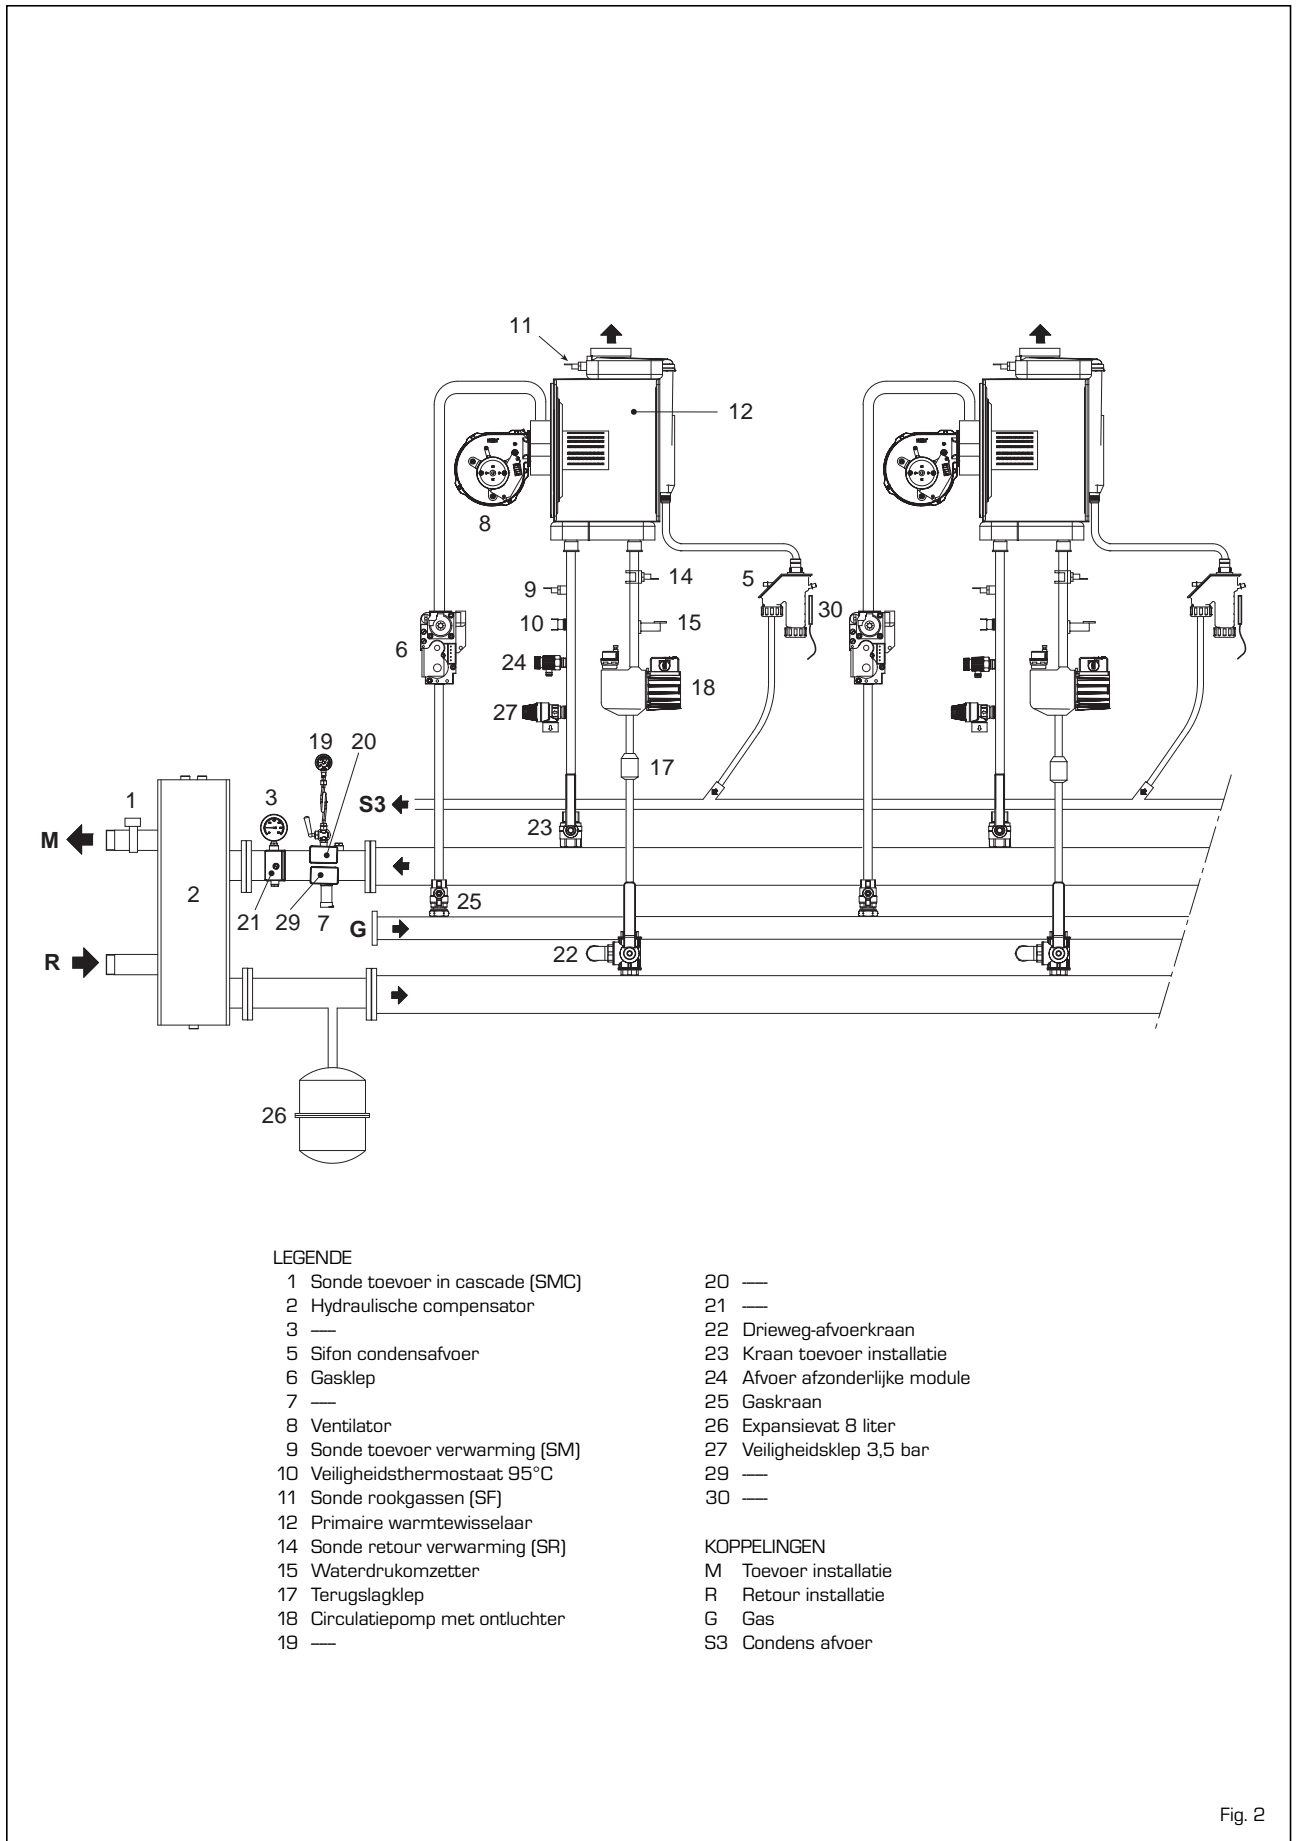

Fig. 2
1.4 HYDRAULISCH CIRCUIT (fig. 2)